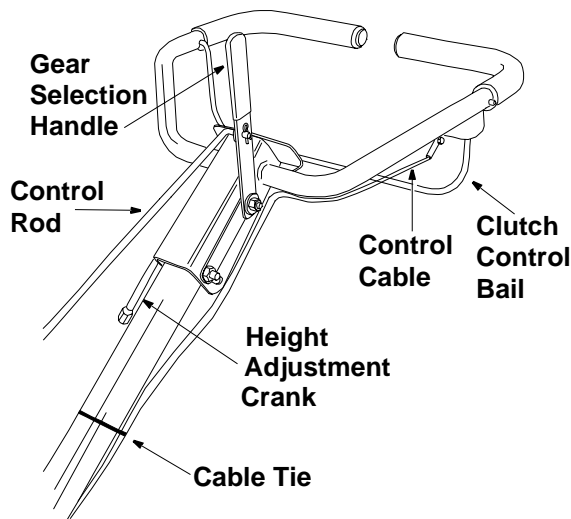

Figure 8
Secure drive cable to handle using cable tie. Refer to Figure 8. Cut off excess end of cable tie.
3. Insert the longer end of the control rod through the hole in the gear selector handle and secure with hairpin clip. (See Figure 8).
The gear selection handle is located in the center of the handle on the tiller. It is used to select NEUTRAL, REVERSE, or one of the FORWARD modes (see below). Pull or push the handle so that the indicator on top of shift cover points to the operating mode desired. See Figure 8.
The clutch control bail is located below the handle. See Figure 8. Lifting the clutch control bail against the handle engages the wheel and tine drive mechanisms.
## HANDLE ADJUSTMENT (See Figure 8)